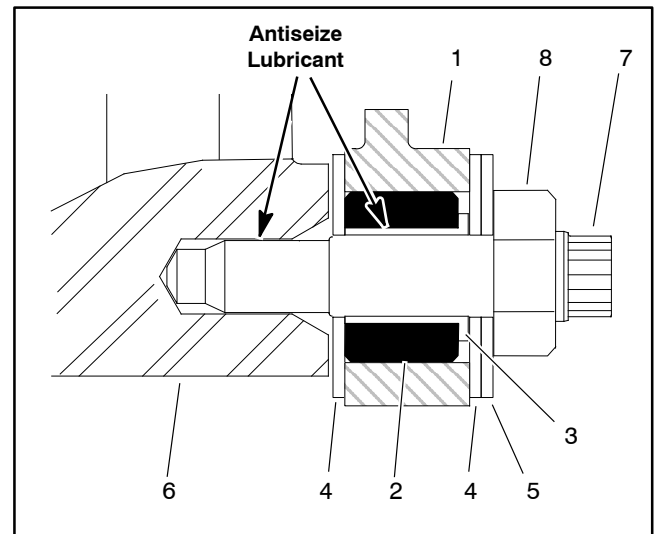

Figure 28
6. Position a plastic washer between bedbar and each cutting unit side plate (Fig. 28).